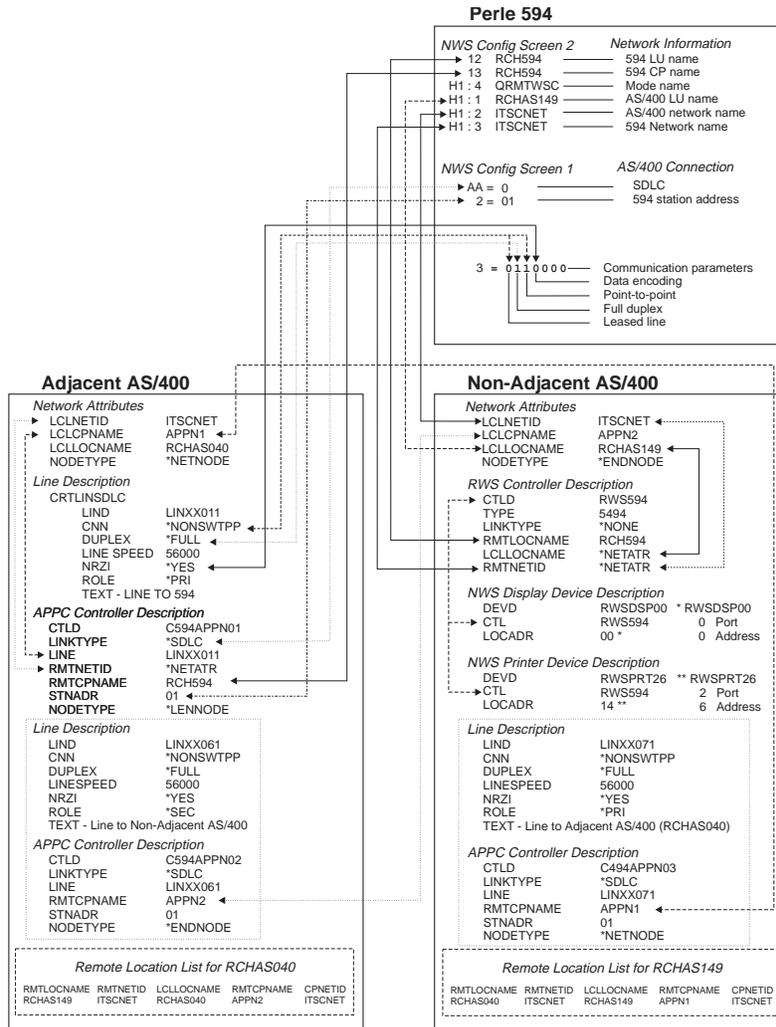

Fig. 16: APPN configuration cross-reference
- Fig. 16: APPN configuration cross-reference 9